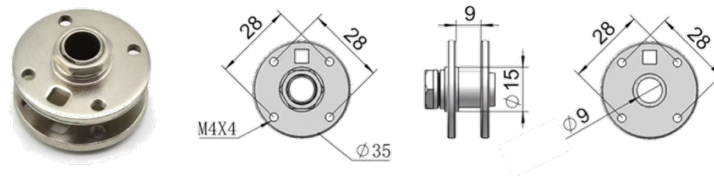

Fig. B-3. Details of the damping pivot used in *AirExo*.
- Damping pivots.** *AirExo* has one damping pivot for each joint, whose details are shown in Fig. B-3 and J01 in Tab. I.